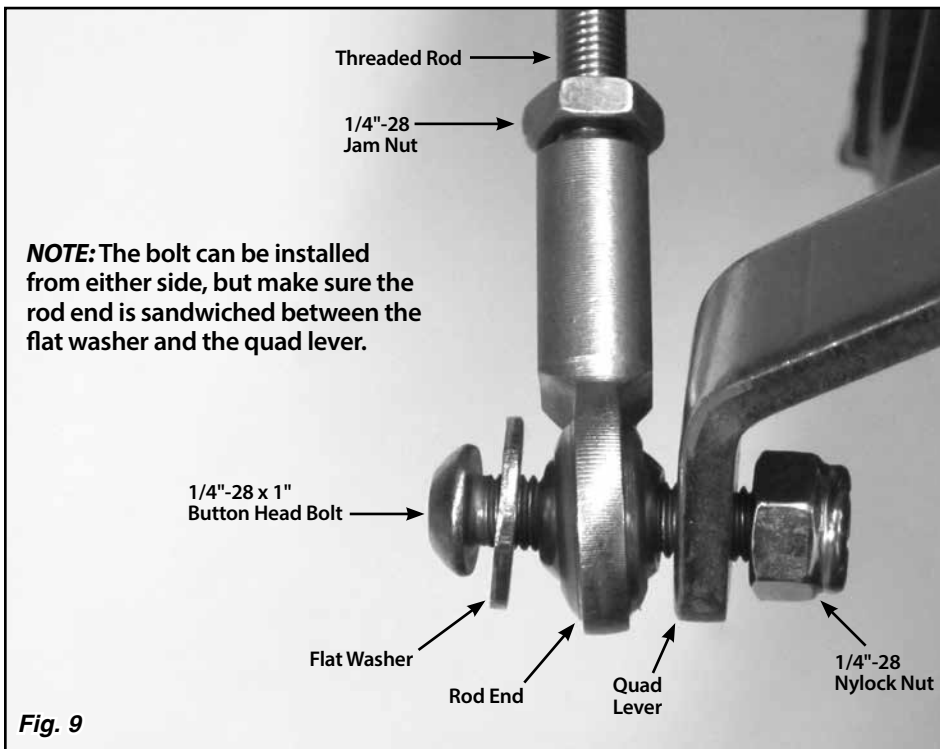
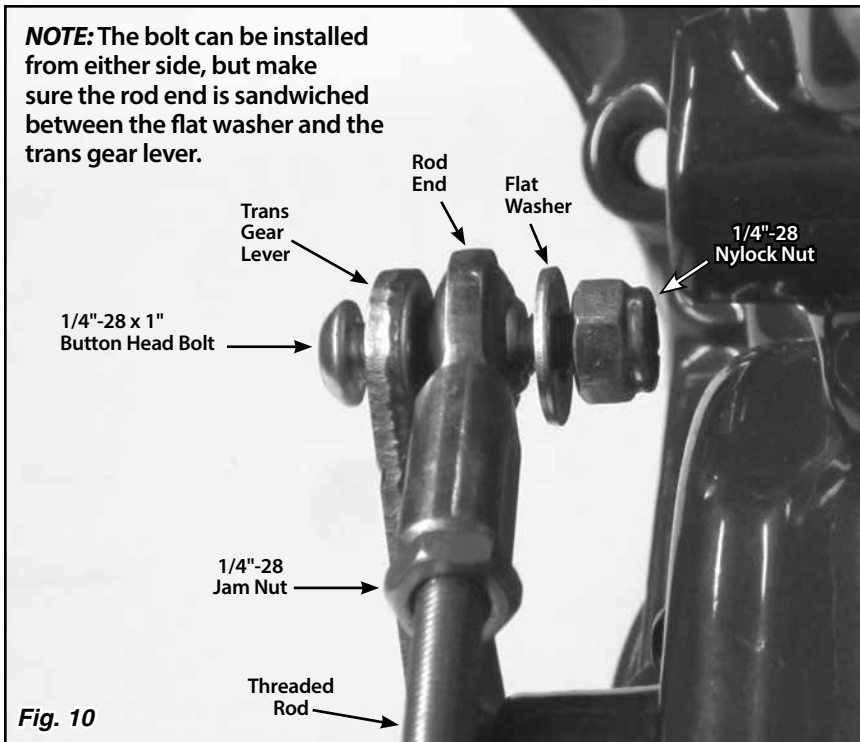

Fig. 9
Fig. 10
Step 14: Verify that both 1/4"-28 jam nuts are on the threaded rod, and install a rod end onto each end of the threaded rod. Attach the threaded rod assembly to the **inside** of the trans gear lever and to the **outside** of the quad lever using the 1/4"-28 x 1" button head bolts, flat washers, and nylock nuts as shown in Fig. 9 and Fig. 10. The button head bolts can be installed from either direction, but make sure the rod end is sandwiched between the flat washer and the trans gear lever or quad lever.